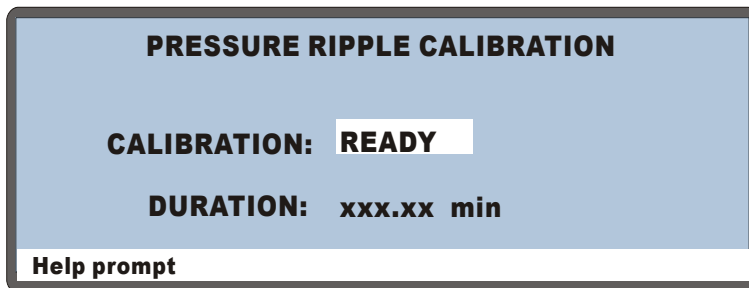

Figure 3-2. Pressure Ripple Calibration Screen
3. Go to the **CALIBRATION MENU** and select the **PRESSURE RIPPLE CALIBRATION** screen (see Figure 3-2).